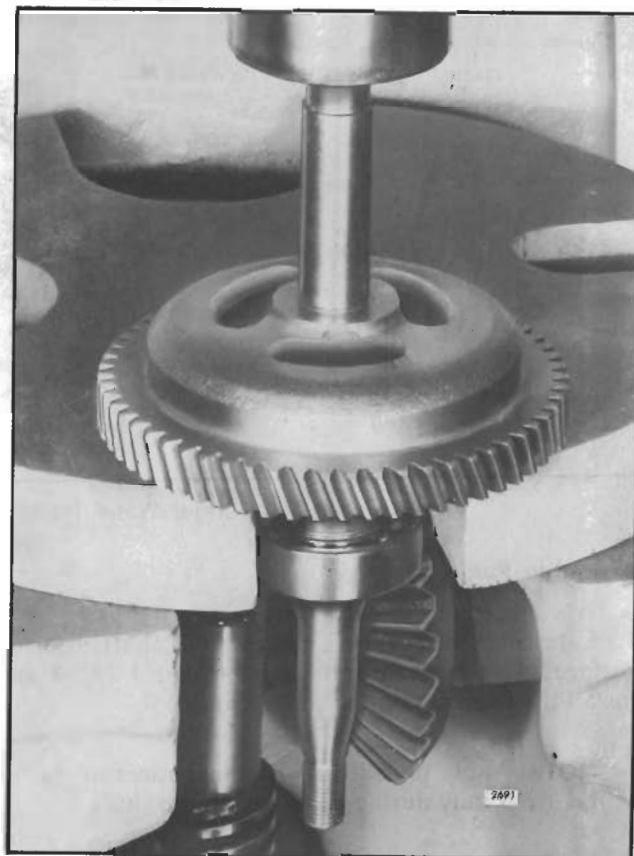

Fig. 4 - Pressing Shaft Out of Gear
6. Place the gear on the bed of an arbor press with the shaft extending downward, then place a short piece of .625" diameter bar stock between the shaft and the ram of the press and press the shaft out of the gear as shown in Fig. 4.